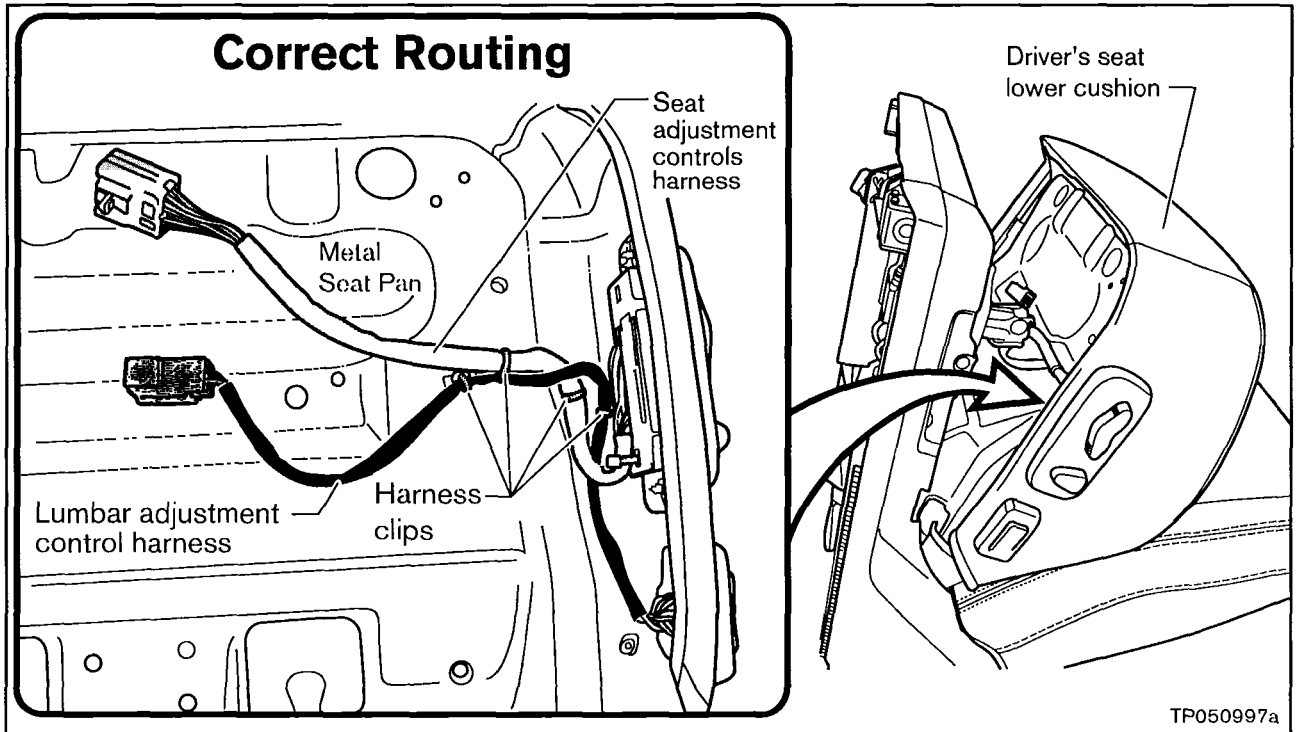

Figure 10
6. Correctly route and secure the seat adjustment controls harness and the lumbar adjustment control harness as follows (see Figure 10).
- b. Re-install the harnesses as shown in Figure 10 using new harness clips.